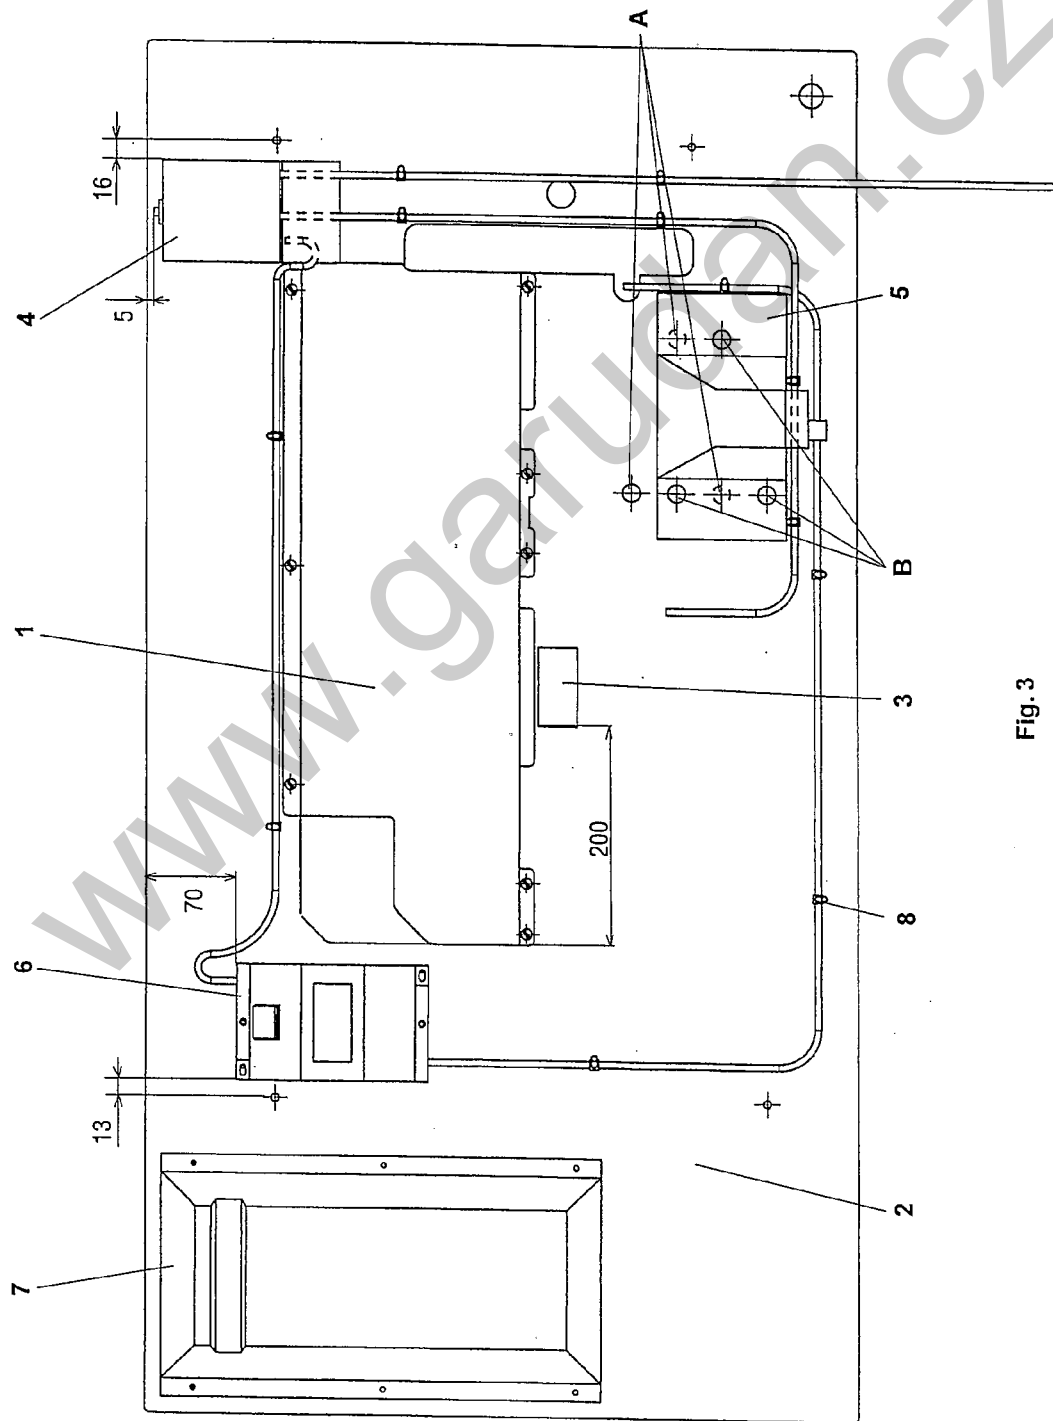

Fig. 3
Screw on the main switch (4) to the stand plate (2, Fig. 3).
Nail down the rubber stop (3, Fig. 3).
Screw on the motor holder (5), see Figs. 3 and 4.
By means of clips (8, Fig. 3) install transmission line of heavy current conductors. Connection is different from the type of motor, supply voltage and number of conductors of electric supply. In case of quad (four wire) supply 3 x 400 V, transformer for lighting must be supplied with separate supply cable 1 x 230 V - see par. 5.
Screw on the socket (7, Fig. 3).